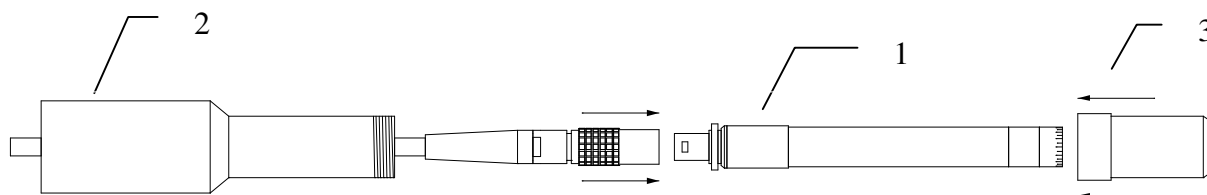

Fig. 1. Assembly of weatherproof microphone – step 1.
- Fasten the part (2) of microphone holder to microphone extension cable PD7Lx and next connect this cable to microphone-preamplifier assembly (1) (Fig. 1).
- Put part (3) of microphone holder on microphone-preamplifier assembly (1) and then screw it to part (2) of microphone holder fastened earlier to extension cable (Fig. 1).